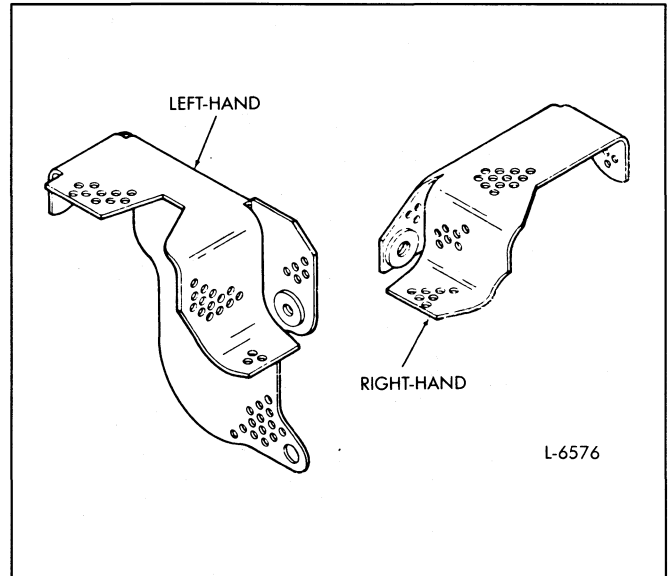

Fig. 14 – Injector Rack Guard Screens
- 21. On 12 and 16 cylinder engines, install the two (2) left-hand and two (2) right-hand injector rack guard screens (Fig. 14), four (4) bolts and lock washers. Tighten bolts to 13 - 17 lb—ft (18 - 23 N#m) torque.
NOTICE: Injector rack guard screens (Fig. 14) are used in place of cylinder block drain screens on all current 12V-149 and 16V-149 engines. Guard screens protect the injector control tube linkage passing through the front and rear block halves by preventing debris from wedging between the block and the injector control tube lever, jamming the racks. If racks are jammed at *full-fuel*, an overspeed condition and serious engine damage may result. *Guard screens must be replaced if removed.*